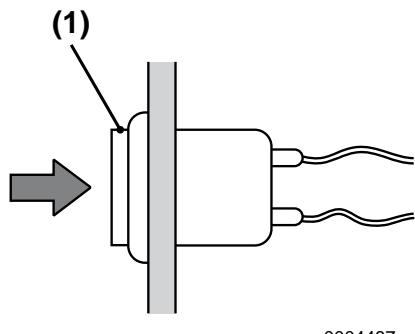

Figure 4
4. With the key in the ON position, push and hold the stop button (**Figure 4, (1)**). After the engine has stopped, turn the key switch to OFF.